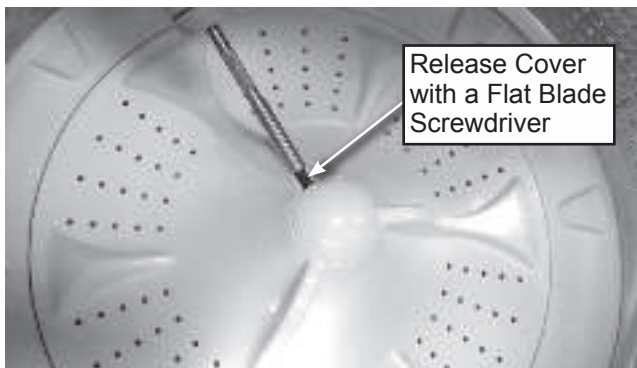

Figure 1
6. Remove impeller bolt cover, see figure 1.